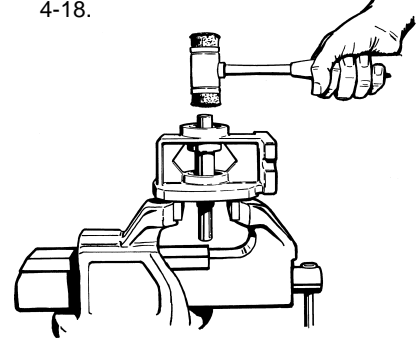

Figure 4-18
4. Place the pedestal, pump side down, on the jaws. Refer to Figure 4-18.